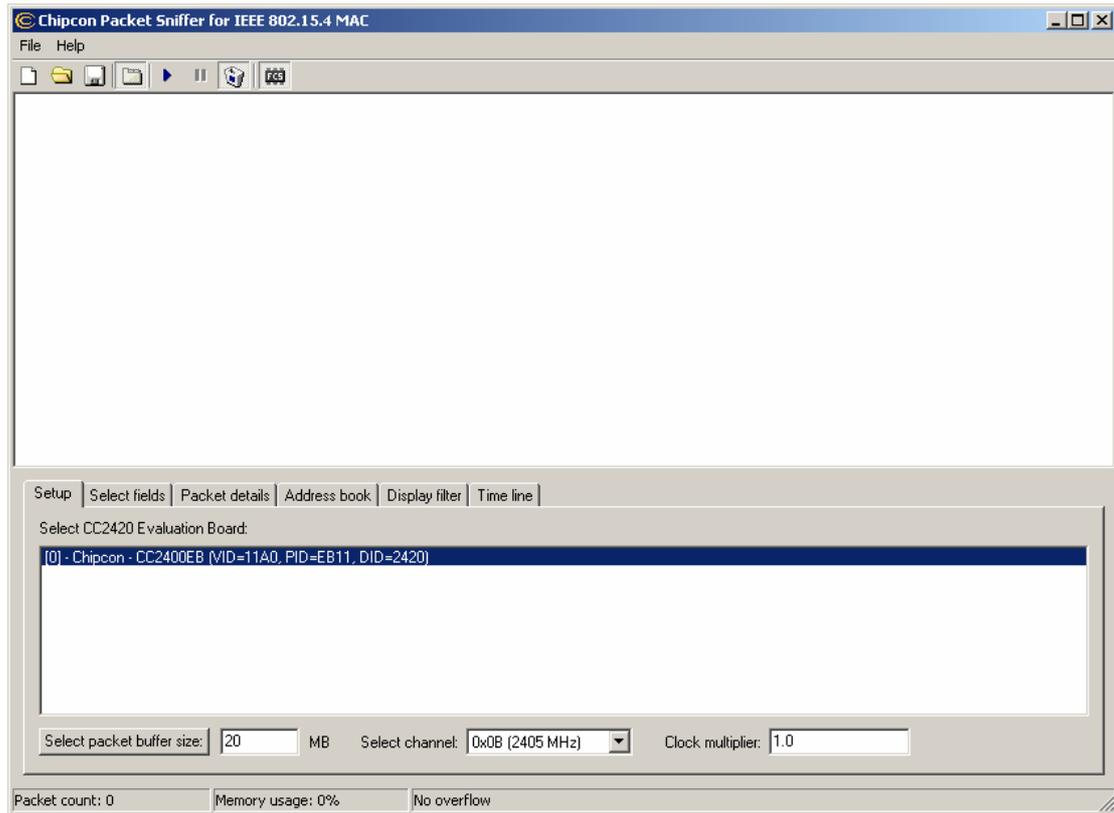

Figure 6: Packet Sniffer
- a. The CC2400EB will be detected in the selection window. See figure 6